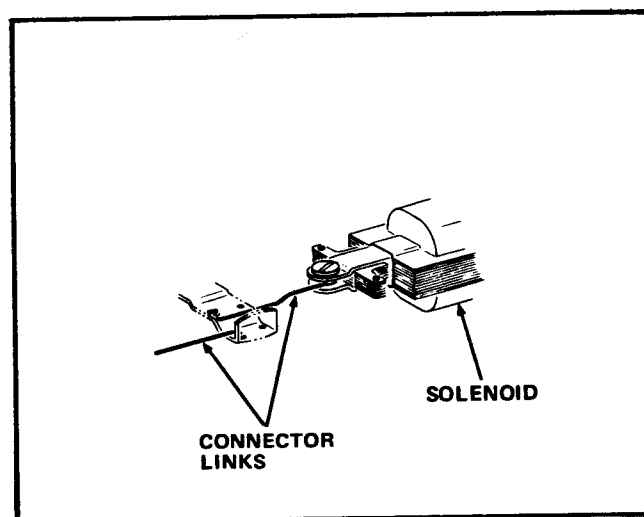

FIGURE 30
2. If the Push Button Assembly being replaced is the one next to the Solenoid, the link from the Solenoid fits into the lower hole of the set of holes closest to the Pivot of the Lever, in line with the other link. See Figure 30.